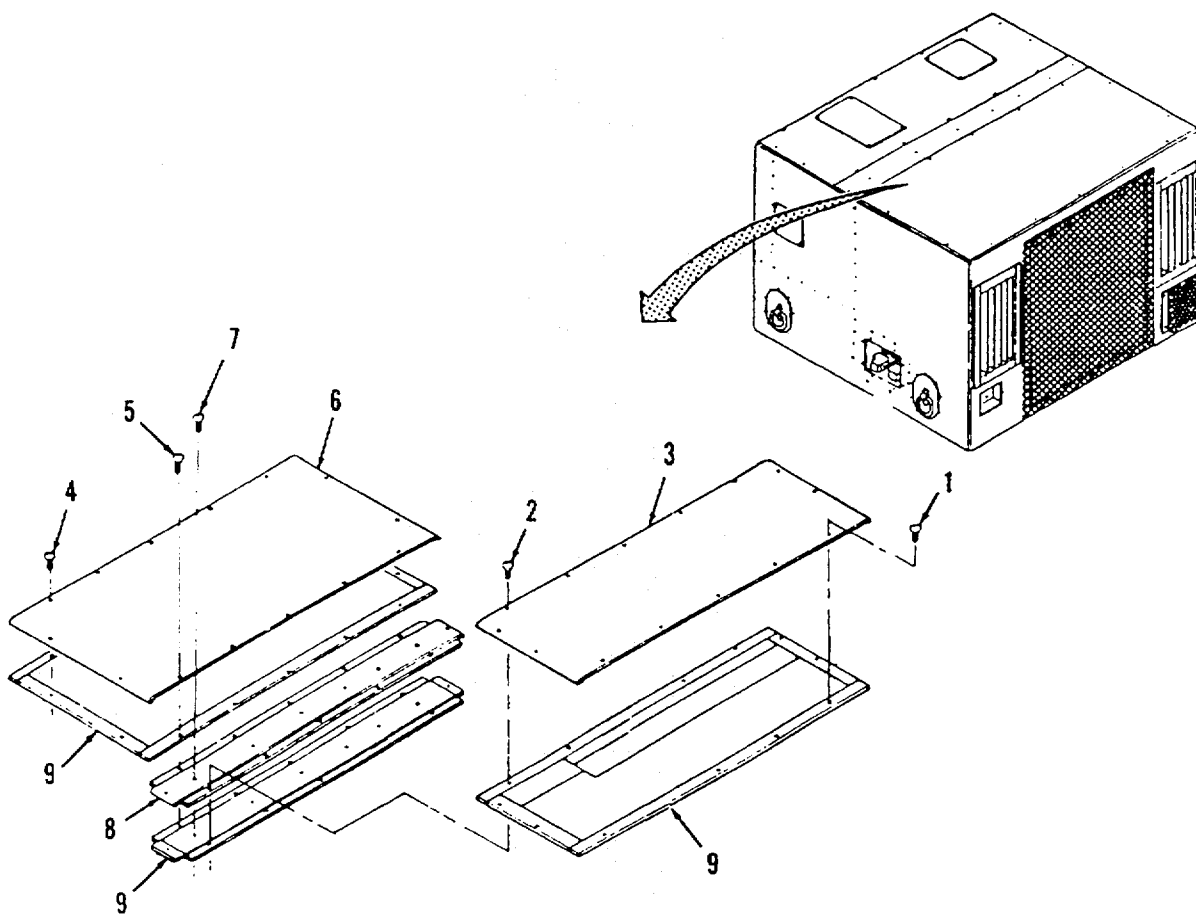

Figure 3-16. Metal Covers.
**a. Removal.** (Refer to Figure 3-16).
- (1) Remove nine screws (1), five screws (2) and front cover (3).
- (2) Remove nine screws (4), five screws (5), and rear cover (6).
- (3) Remove eight screws (7) and center cover (8).
- (4) Remove gasket material (9) if damaged.